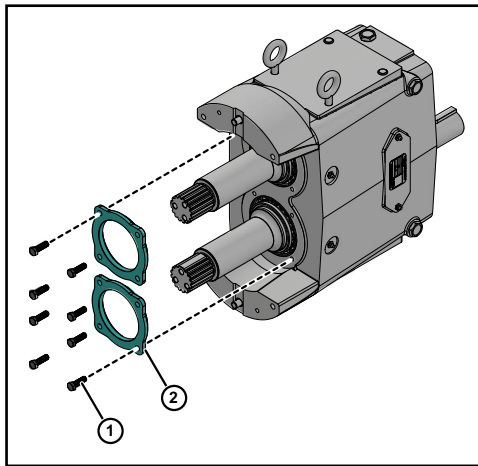

Figure 51 - Remove Bearing Retainers
5. Remove the front bearing retainer screws (1) and pull off the bearing retainers (2), as shown in Figure 51. (If a retainer is stuck, leave it in place, it will press out when the shaft is removed.)
6. Remove the silicone sealant from the bearing retainer (2) and gear case.